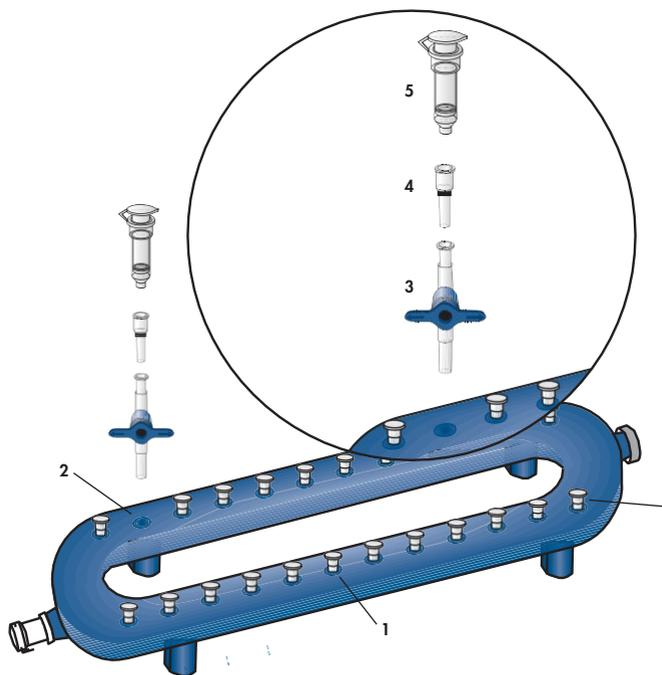

Figure 3. Setting up the QIAvac 24 Plus with QIAamp Mini columns using VacValves and VacConnectors
Insert a VacValve into each luer slot of the QIAvac 24 Plus that is to be used (see Figure 3). Close unused luer slots with luer plugs or close the inserted VacValve.
2. Insert a VacConnector into each VacValve (see Figure 3).
3. Place the QIAamp Mini columns into the VacConnectors on the manifold (see Figure 3).